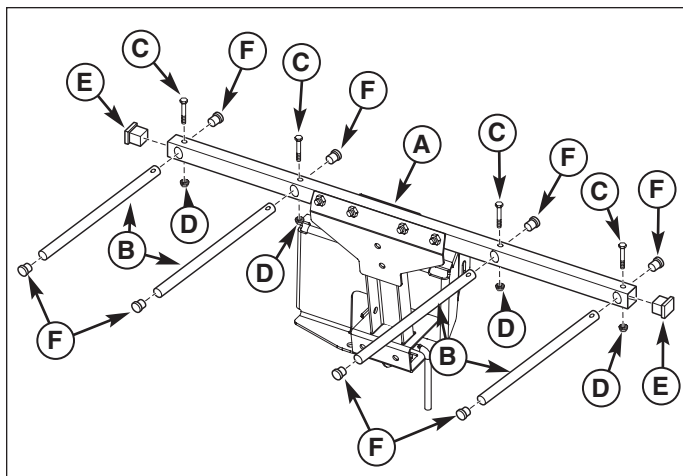

Figure 10. Install Tubes and End Caps
1. Install the tubes (B, Figure 10) to cross bar (A) securing with 5/16-18 x 2 capscrews (C) and 5/16-18 locknuts (D).
2. Install square end plugs (E) to cross bar (A) as shown.
3. Install round end plugs (F) to tubes (B) as shown.